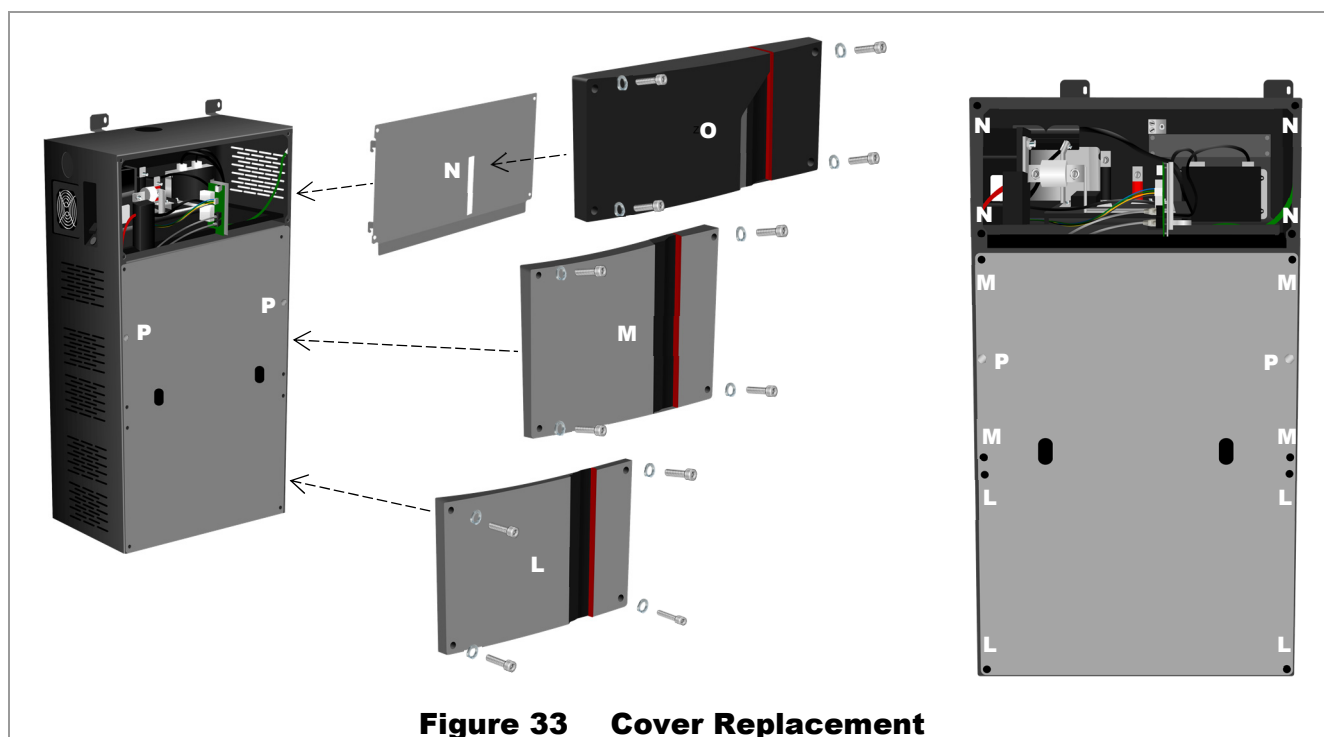

Figure 33 Cover Replacement
2. Replace all covers. This step includes the exterior covers **L**, **M**, and **O** shipped with the unit, as well as the interior cover **N** for the wiring compartment. Do not remove any other interior covers. Do not remove the hex screws **P**. Install the covers **L**, **M**, **N**, and **O** as shown in Figure 33. Use a 5 mm hex (Allen) driver to install the M6 screws and washers at locations **L**, **M**, and **N**.